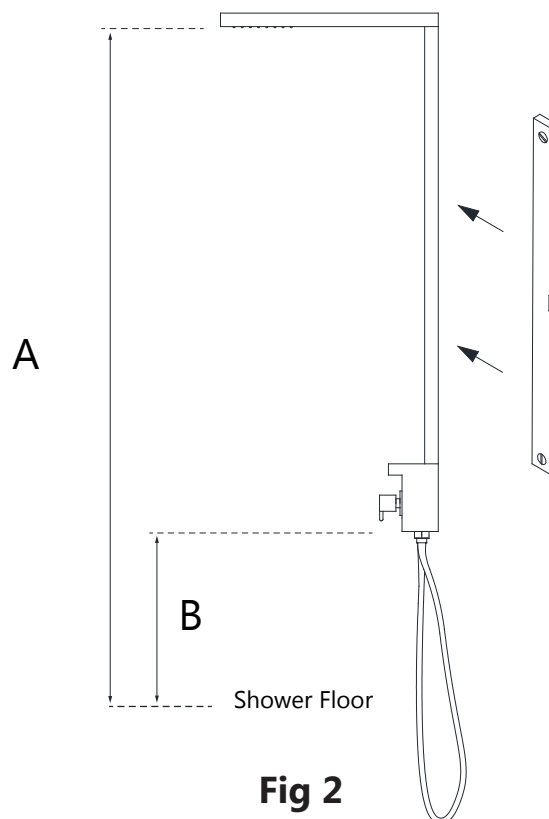

Fig 2
2. Using a helper, place the unit against the shower wall at the desired position (over the two stub-outs) with the showerhead about 12"-18" above average head height **(A)**. Plumb the unit with a level and mark the wall on the side of the unit as well as at the bottom of the unit. Remove the unit from the wall and carefully put it aside. **(B)** represents the distance from the floor to the bottom of the unit. **(Fig 2)**